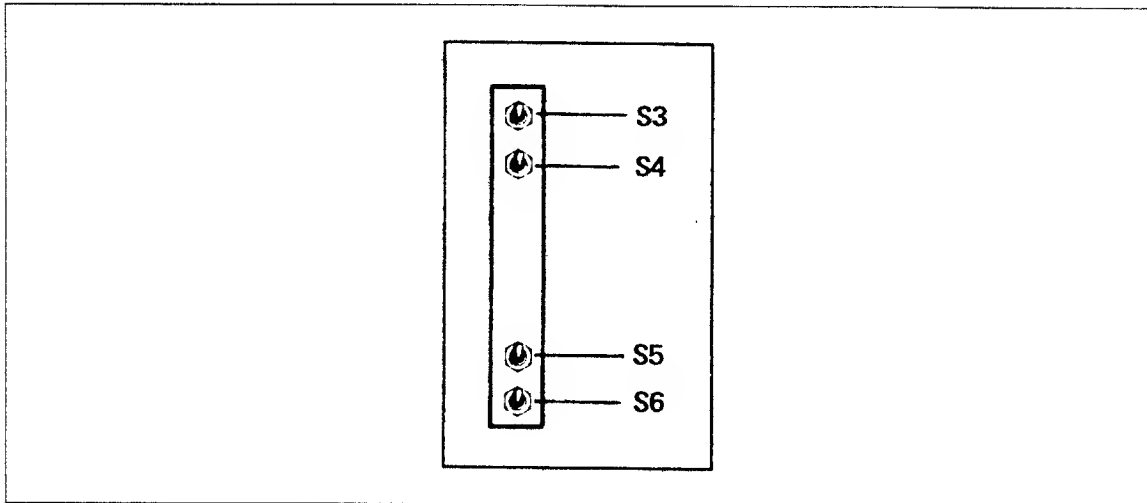

Figure G-6. Switch Numbering Scheme for Models 835, 845, and 855 Without Memory Upgrade Option
4. If all of the CM reconfiguration switches (refer to figure G-6 for models 835, 845, and 855) are centered, reset them to the position shown in the Reconfiguration Setting Switch Number column and deadstart. If the switches are not centered before the attempt to reconfigure, additional reconfiguration is not recommended.